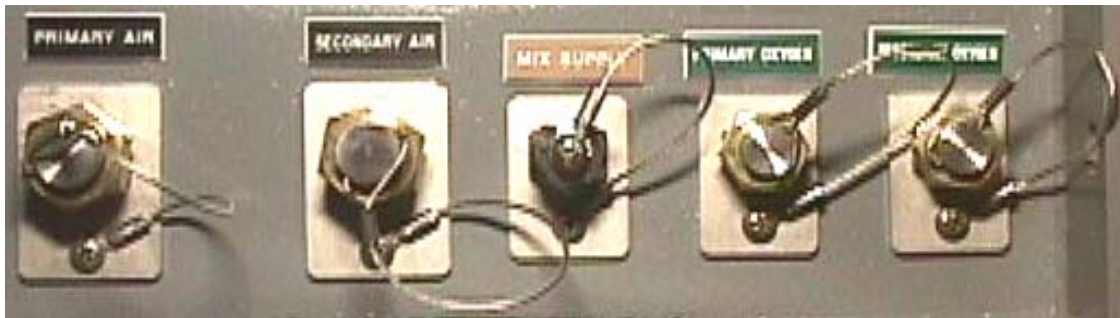

Figure 2-8. External Compressed Gas Supply Connections
2-5.4 EXTERNAL COMPRESSED GAS SUPPLY CONNECTIONS. On the outer wall of the SNDLRCS van, connections (see Figure 2-8) are provided for primary and secondary oxygen supply, mixed gas breathable air supply, and primary and secondary high-pressure (HP) air supply. On the opposite side of the wall, inside the van, is a bulkhead transition panel that, via flexible HP hoses, connects HP air, oxygen and/or LP mixed gas to their appropriate systems. These connections are put into service by connecting an external, flexible HP hose(s) from the gas system (HP air, oxygen, or LP mixed gas) connection to its pressure source. Note that mixed gas is reduced to low pressure on the HOSRA panel before it enters the SNDLRCS van, while air and oxygen are reduced to low pressure at their respective reducing stations inside the van. On units procured after 2007, an air-charging panel is installed in the rear door of the SNDLRCS van.